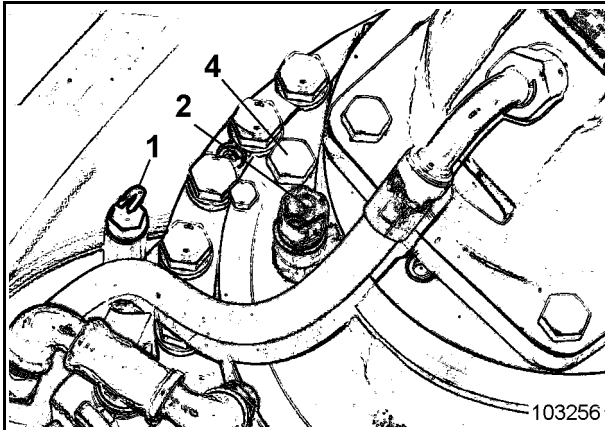

Fig. 3-114:
- Unscrew plug (4, Fig. 3-114:) and fill in new oil.
- Check oil level with dipstick (1, Fig. 3-114:).
- Screw in plug (4) again.
The gearbox is vented through breather filter (2, Fig. 3-114:).